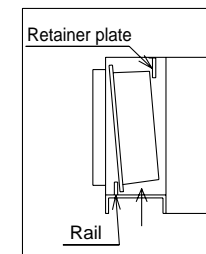

Fig.5
- Insert the filter from the bottom. (Fig. 5)